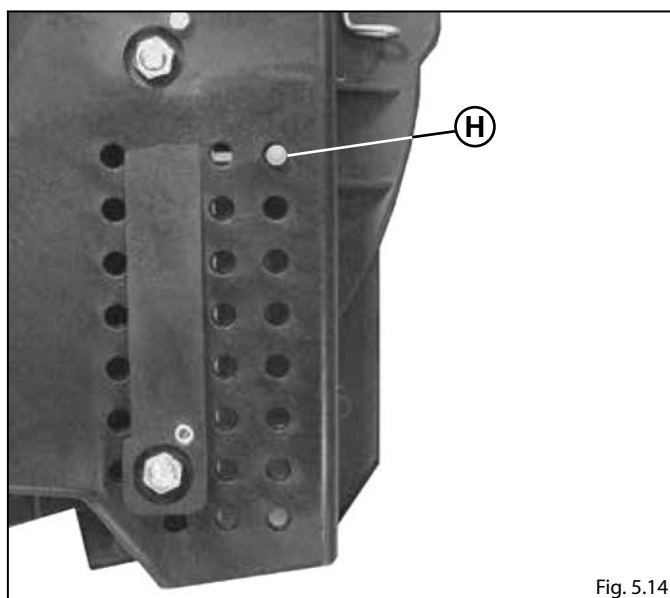

Fig. 5.14
- Insert the pin into point **H** of the coverplate to lock the expeller (Fig. 5.14).